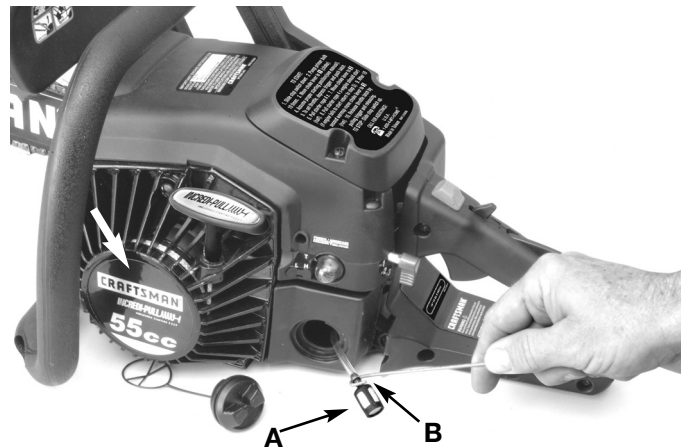

Fig. 32
1. Pull fuel filter (A) out of tank with a bent wire (B) or long needle nosed pliers. Disconnect filter and discard (Fig. 32).